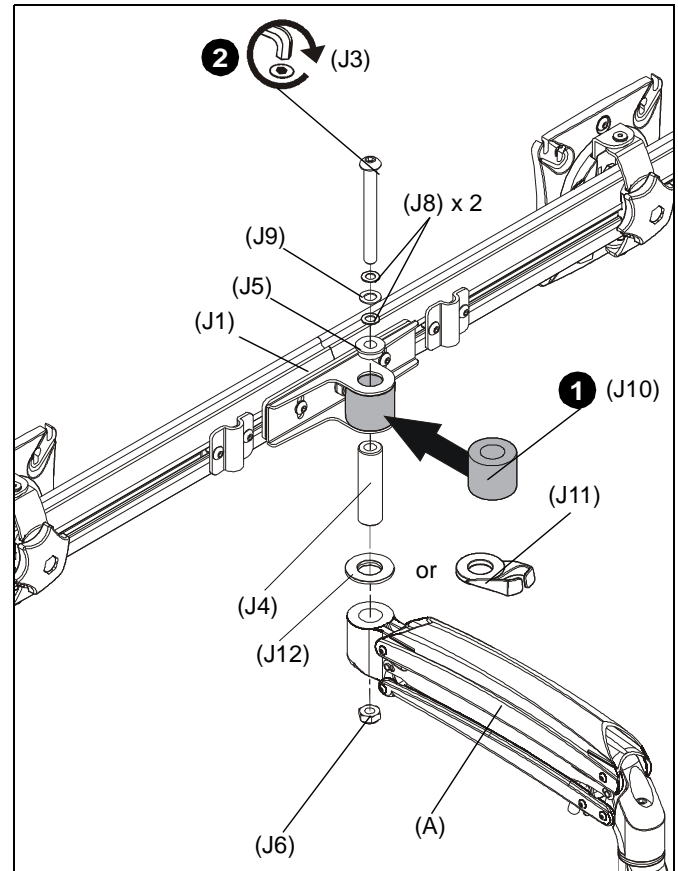

Figure 10
1. Slide rotational spacer (J10) into opening on array attachment bracket. (See Figure 10)
2. Use 5/16-18 x 3" button head cap screw (J3), two thin steel washers (J8), plastic spacer (J9), pocket washer (J5), pivot pin (J4), pivot point spacer (J12) and 5/16-18 lock nut (J6) to secure array (J1) to K1C arm (A). (See Figure 10)
NOTE: Cable clip (J11) can be used in place of pivot point spacer (J12) if additional cable management is desired. (See Figure 10)